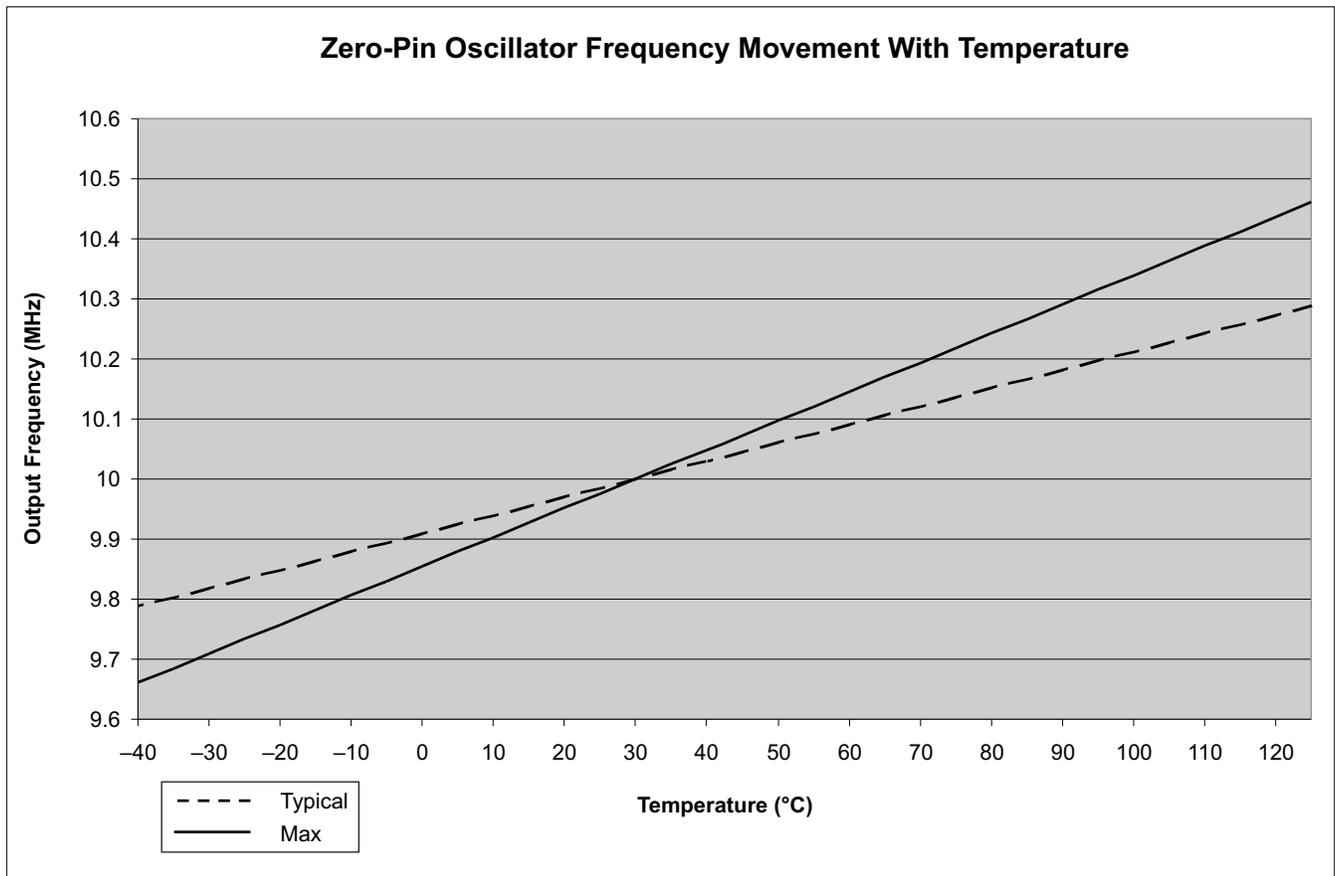

Figure 5-8. Zero-Pin Oscillator Frequency Movement With Temperature
- (1) Oscillator frequency will vary over temperature, see Figure 5-8. To compensate for oscillator temperature drift, see the Oscillator Compensation Guide and C2000Ware.
- (2) Frequency range ensured only when VREG is enabled, $\overline{\text{VREGENZ}} = \text{V}_{\text{SS}}$.
- (3) Output frequency of the internal oscillators follows the direction of both the temperature gradient and voltage (V_{DD}) gradient. For example: